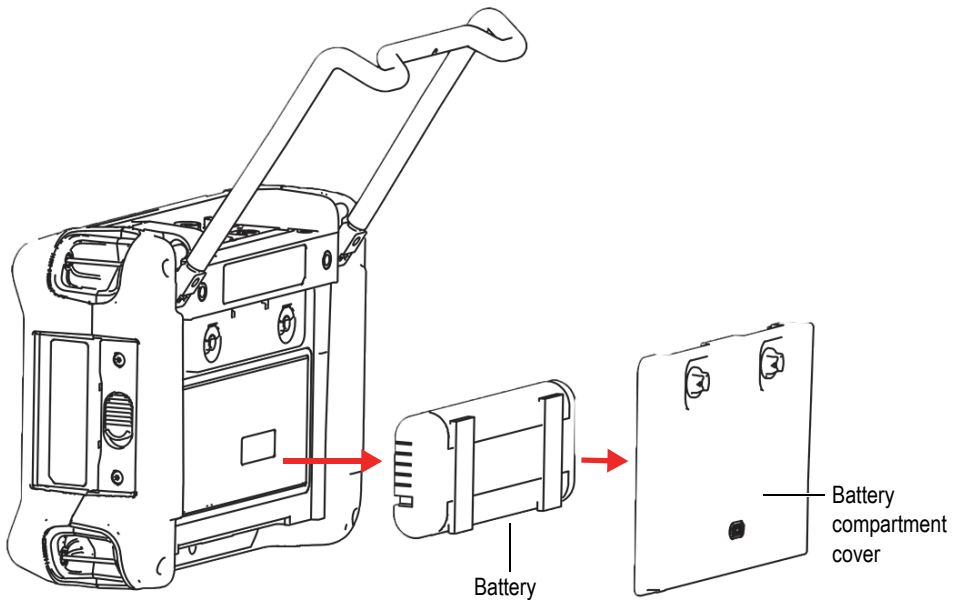

Figure 4-3 Removing the lithium-ion battery
4. Remove the battery compartment cover (Figure 4-3 on page 47).